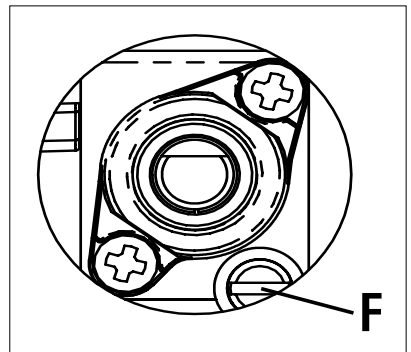

FIG. 7
- › Introduce a flat-tip screwdriver in the hole F of the tap (Fig.7) and turn the by-pass screw up to a proper adjustment of the lowest flame point.